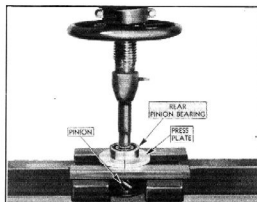

Fig. 22—Removing Rear Pinion Bearing
2. To remove the rear pinion bearing, take off the lock ring and then, using a special press plate, J-1453, press the pinion and shaft out of the bearing, Fig. 22.